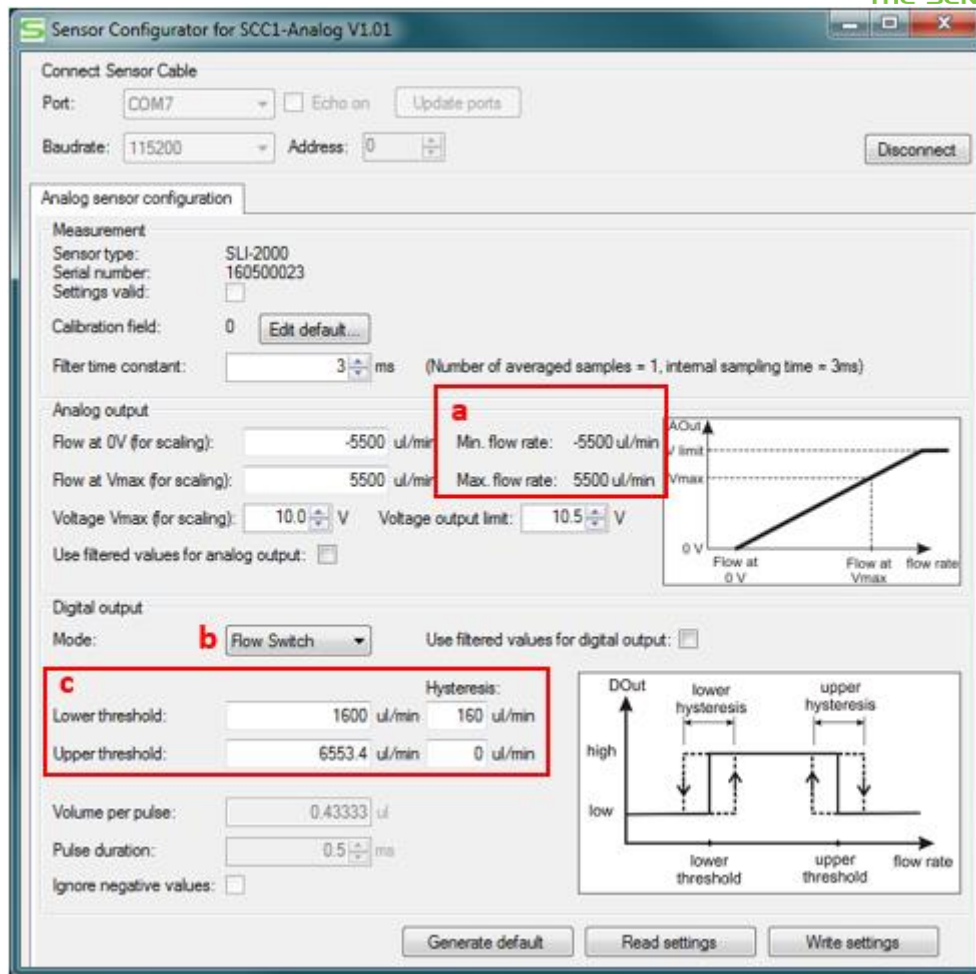

Figure 2: Setting the flow switch thresholds.
2. Start the SCC1-Analog Configurator, see Fig. 2.